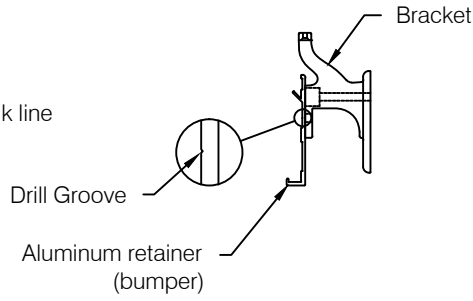

fig 2
- Step 3:** Layout aluminum retainer "face up", mark and drill bracket mounting holes. Use groove in retainer to locate centerline of drilling, see fig 2.